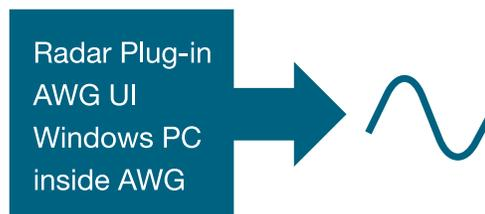

Figure 2: AWG local use model.
1. Using the AWG user interface (see Figure 2 - AWG local use model)